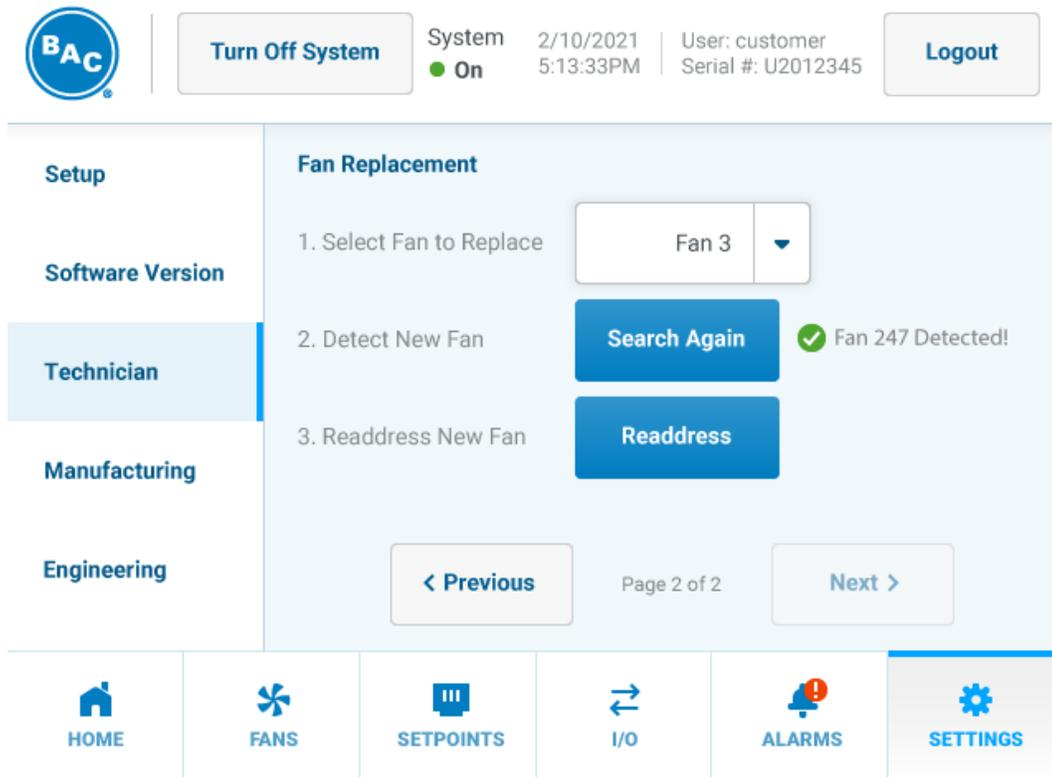

Figure 80. Settings Menu, Technician Page 2 of 2 Fan Detect
5. When the new fan has been detected, a green checkmark icon will appear as shown in **Figure 80**. Press the "Readdress" button. Next press the "Readdress Fan" button to confirm readdress. The selected fan will be readdressed.